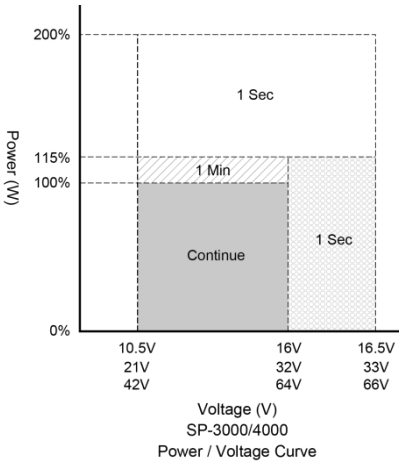
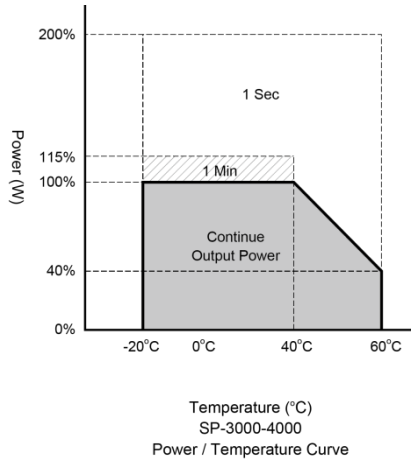

Figure 3. SP-3000/4000
Figure 4. SP-3000/4000
- ① Voltage range : Please refer to Figure 3
- ② Normal load Condition : Vin =12.5V/25V/50V, Vo=200/220/230/240 VAC 80% load (PF=1.0)
- ③ Operating temperature : Please refer to Figure 4
- ④ **Warning** : This is a class A product. In a domestic environment this product may cause radio interference in which case the user may be required to take adequate measures.
② Normal load Condition : $V_{in} = 12.5V/25V/50V$, $V_o = 100/110/115/120$ VAC 80% load (PF=1.0)
③ Operating temperature : Please refer to Figure 4
④ **Warning** : This is a class A product. In a domestic environment this product may cause radio interference in which case the user may be required to take adequate measures.
- ② Normal load Condition : Vin =25V/50V, Vo=200/220/230/240 VAC 80% load (PF=1.0)